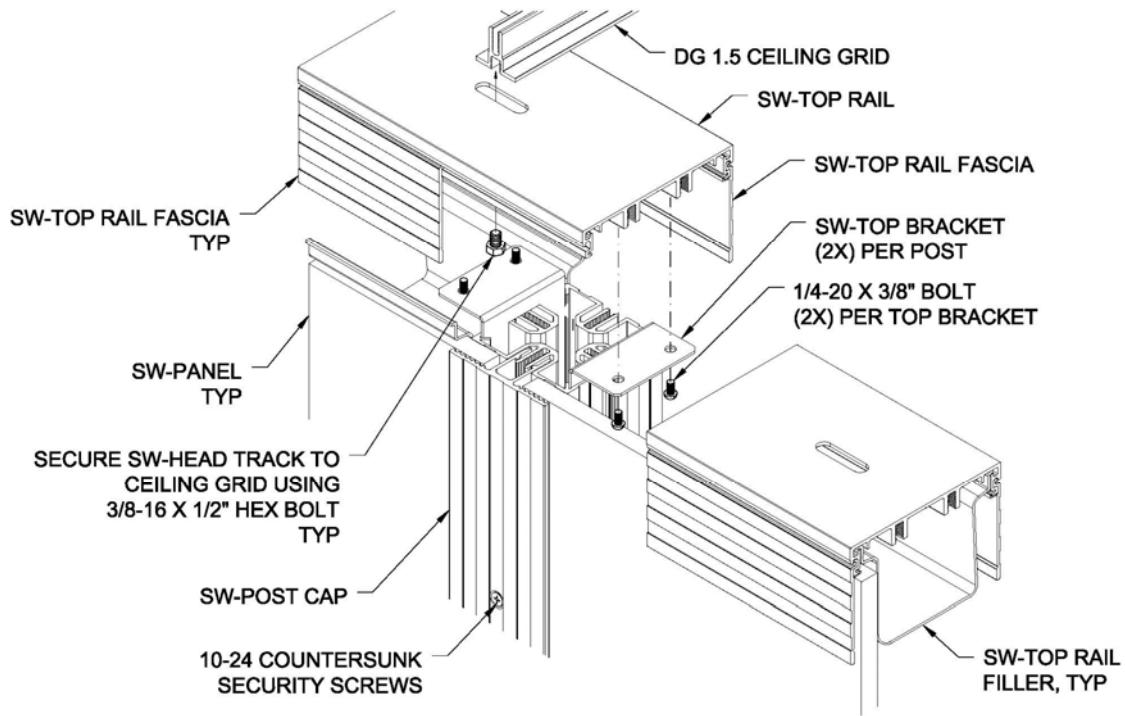

**FIG.4**
4. After the Top Rail and Floor Brackets are installed, the post installation may start. All posts at the top end will have two top brackets, except start and end posts located next to a wall use only one on the side opposite of wall. The brackets slide into the bracket guides.**Fig.4**.